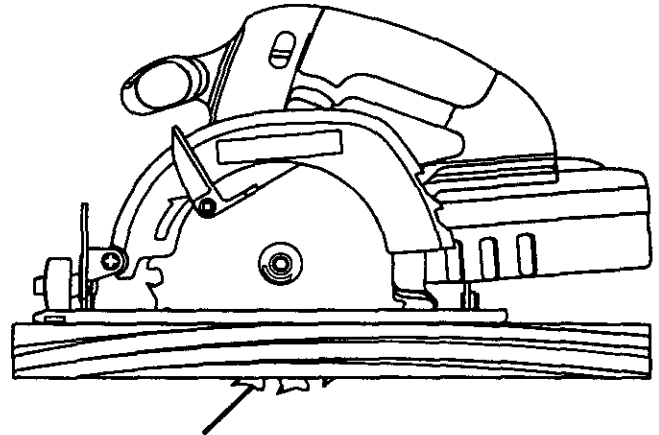

Fig. 13
- Always keep the correct blade depth setting – the correct blade depth setting for all cuts should not exceed 1/4 in. below the material to be cut. See Figure 13. One blade tooth below the material to be cut works best for most efficient cutting action.